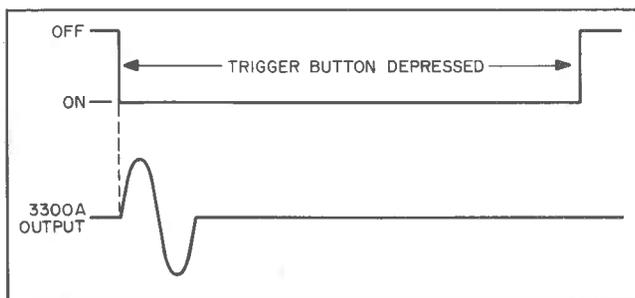

Figure 2
a. At low frequencies, approximately 60 , the 3300A will generate only one cycle after the MANUAL TRIGGER button is depressed. See Figure 2.